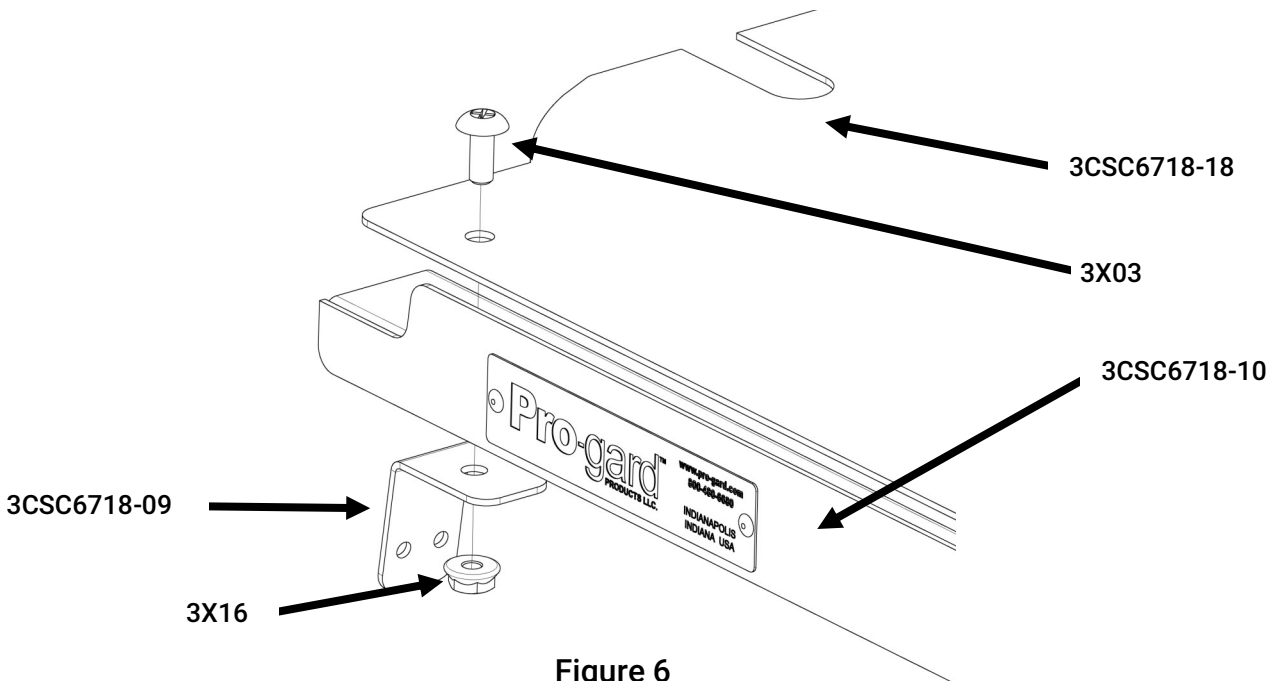

Figure 6
- B. Prepare (1) cover support bracket [3CSC6718-09], (1) [3X16] whiz nut, and (1) [3X03] Phillips head screw in position on the driver side near the rear cross member bracket [3CSC6718-10] that was just put in the vehicle.
- C. Place the driver cover panel [3CSC6718-07] into the vehicle and secure in place using (2) [3X03] Phillips head screws into the center support bracket that was installed previously. Align the bracket prepared in the previous step with the outside hole in the rear cross member bracket and with the corresponding hole in the cover panel. Loosely secure with the hardware prepared in the previous step. See Figure 6 on the following page.